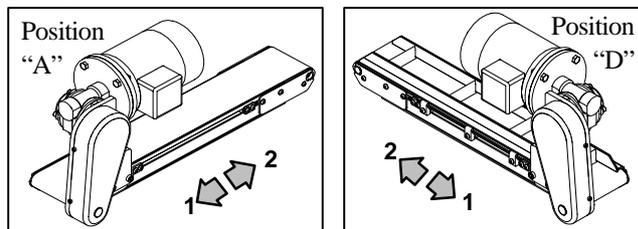
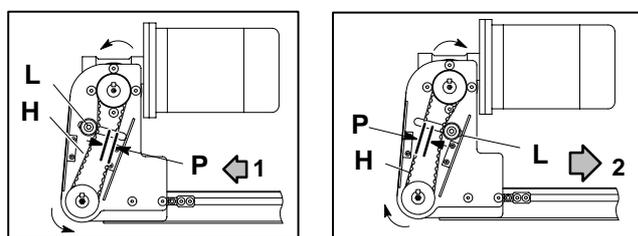

Figure 1: Flat Belt (left) & Cleated Belt (right)
Figure 2: Timing Belt Tension Detail
The end drive top mounting package is ordered from the factory in either configuration shown by Position "A" or "D" of Figure 1 along with the conveyor belt travel direction shown by arrow 1 or 2 of Figure 2. Actual direction of conveyor belt travel is indicated by an arrow decal affixed to side of conveyor. The same mounting package is used for both flat belt and cleated belt conveyors.
5. Install the timing belt (H) around the pulleys. Determine which direction the conveyor belt is traveling (as shown by arrow 1 or 2 of Figure 2) and position the tensioning roller assembly (L of Figure 2) on the appropriate slack side of the timing belt, as shown. Make sure timing belt is centered with respect to all three components before adjusting tension in the next step.
- Adjust the timing belt tension by sliding the belt tensioning roller assembly (L of Figure 2) against the belt. Timing belt tension can be measured at the mid-point (P) on the tension side of the belt. At this point, tension should be adjusted for a 3 mm belt deflection with 0.5 kilograms of force applied.
Do not over-tension the timing belt. Over-tensioning may cause reduced belt life or bearing and drive damage. Every timing belt application exhibits its own individual operating characteristics. The optimum timing belt tension should be determined experimentally. If necessary, continue to slide the tensioning roller assembly (L of Figure 2) against the timing belt (H) until belt is tensioned so as to prevent jumping the teeth under the most severe conditions or heaviest load that the drive will encounter.